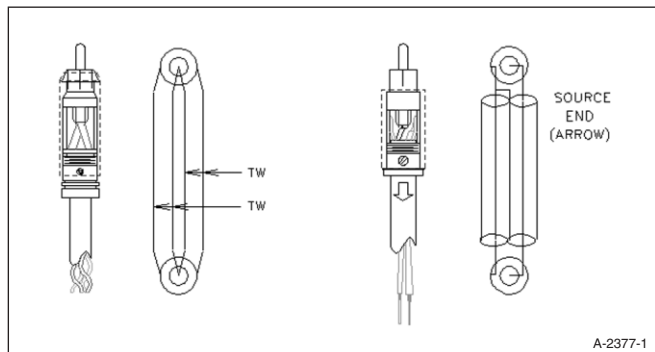

FIGURE 1: Kimber Hero and Supra EFF-IX construction and schematic.
*Figure 1* (left) shows the woven construction of the Kimber Hero. It consists of four individual VariStrand™ PTFE (Teflon™) insulated wires woven into a tight braid. PTFE is the most stable of the dielectric materials, with a low dielectric constant of 2.1. Two parallel wires carry the signal, and the other two are connected to the ground shells. This is an evolution of the original Kimber PBJ three-wire weave, with an added outer jacket of braided plastic. The outer jacket affords additional protection for the conductors and gives the clamp screw of the WBT connector a surface to bite into. The top of the
The Supra EFF-IX (Fig. 1, right) consists of two tube-shaped conductor layers, each wrapped around a vinyl core. Each conductor is covered by polyethylene (PET) insulation and an individual aluminum foil shield. PET has a fairly stable dielectric constant of about 3.2, which decreases about 3% at 1MHz. Polyester film is slightly hygroscopic—it absorbs water by a factor of 0.2% in the presence of high humidity. A tough plastic outer jacket covers the entire assembly.